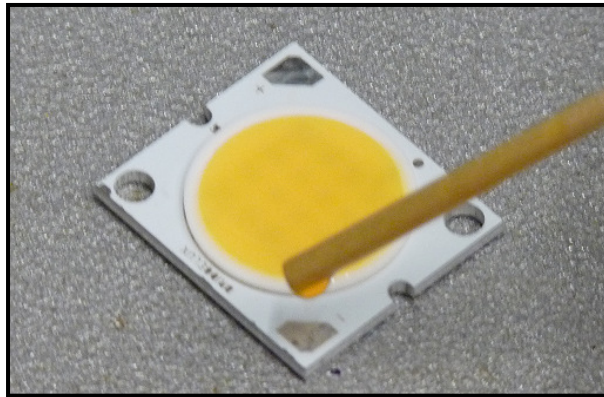

Figure 8: Dispensing flux onto Bridgelux LED Array solder pad
- B. Apply a small amount of flux onto the solder pads of the LED Array (see Figure 8). Flux should be applied only to the solder pads and should not touch other parts of the LED Array, especially the light emitting region (resin area).